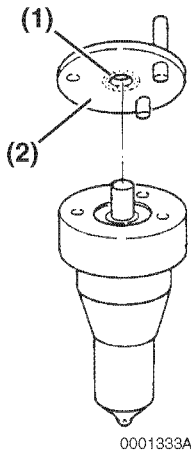

Figure 7-53
6. Inspect the sealing surfaces (**Figure 7-53, (2)**) between the valve stop spacer and nozzle body for nicks or scratches. Check the contact area between the valve stop spacer and the nozzle valve (**Figure 7-53, (1)**) for scoring, or pitting. Use a magnifier glass to inspect the area.